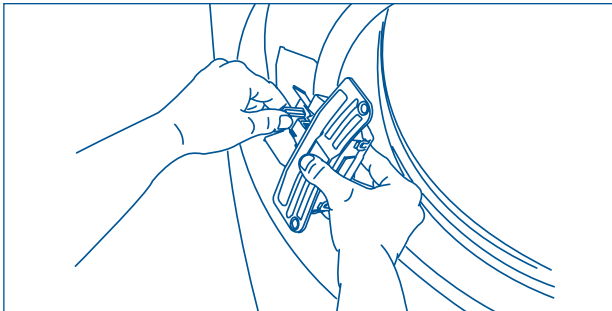

Figure 2-18.
2. Connect the harness to the door lock by inserting it in the terminal and firmly pushing it in place. (See Figure 2-18)